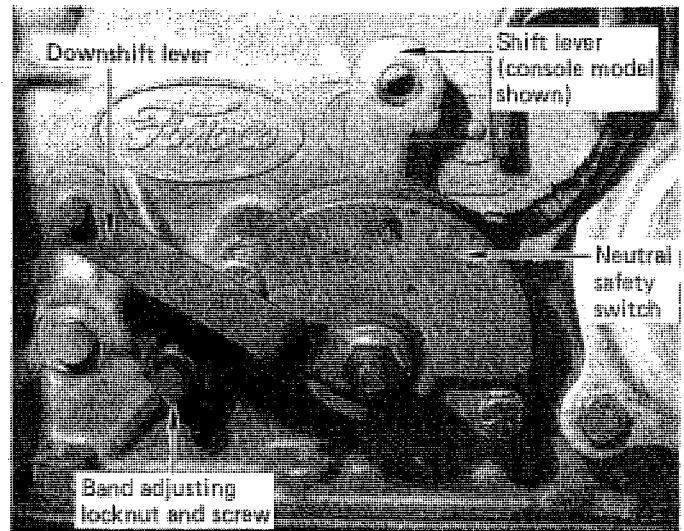

FIGURE 1
**STEP 2.** Manually operate the downshift lever on the transmission with the gas pedal depressed half way. Note how it moves freely with no bind. (See Fig. 1.) Observe how the internal linkage engages the valve body.
**STEP 4.** Adjust the front band: Loosen the outer jam nut with 3/4" wrench. (See Fig. 1) Tighten the band adjusting screw to 120-in.lbs. and back off 1-3/4 turns. Hold band adjusting screw in this position and tighten jam nut securely.